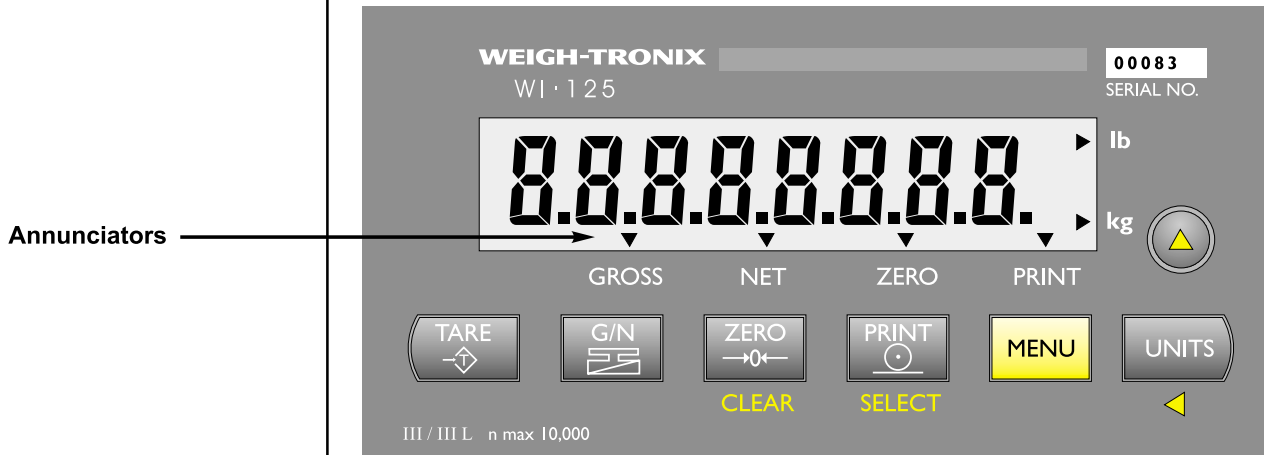

Figure 2
The indicator display, Figure 2, tells you the status of the indicator through the appearance of annunciators. The annunciators are small black arrows pointing to the different labels around the display face.
2. If the unit is not in gross mode, press the **G/N** key once to get to gross mode. . . The annunciator illuminates next to gross. See Figure 2.
3. Verify the scale is empty and zero the scale by pressing the **ZERO** key. . . No weight is displayed and the zero annunciator illuminates. See Figure 2.